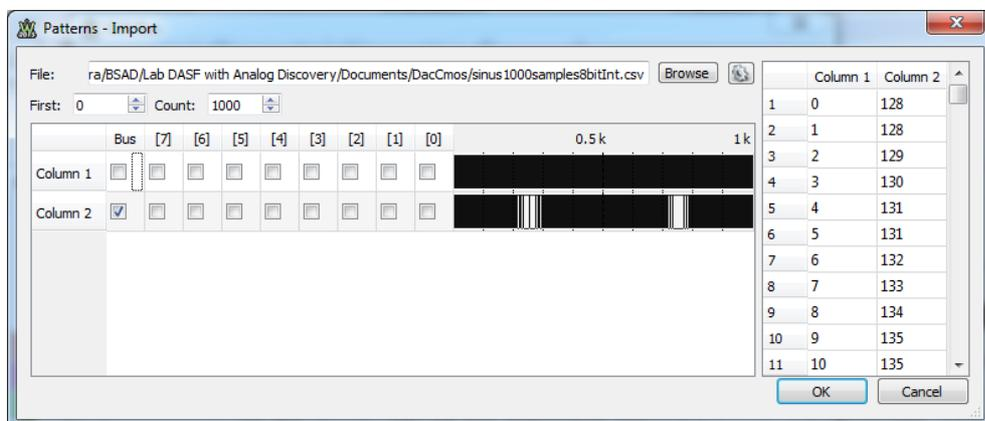

Figure 4.10 Importing a .csv file to *Patterns* generator
- In *Patterns*, change the bus type to *Custom* and edit it. Click Import and select the .csv file prepared above. Select column 2 to be loaded for the whole bus, as in Figure 4.10. This way, the decimal values in column B of the .csv file are converted to binary, and each bit is loaded into the appropriate signal of the bus.